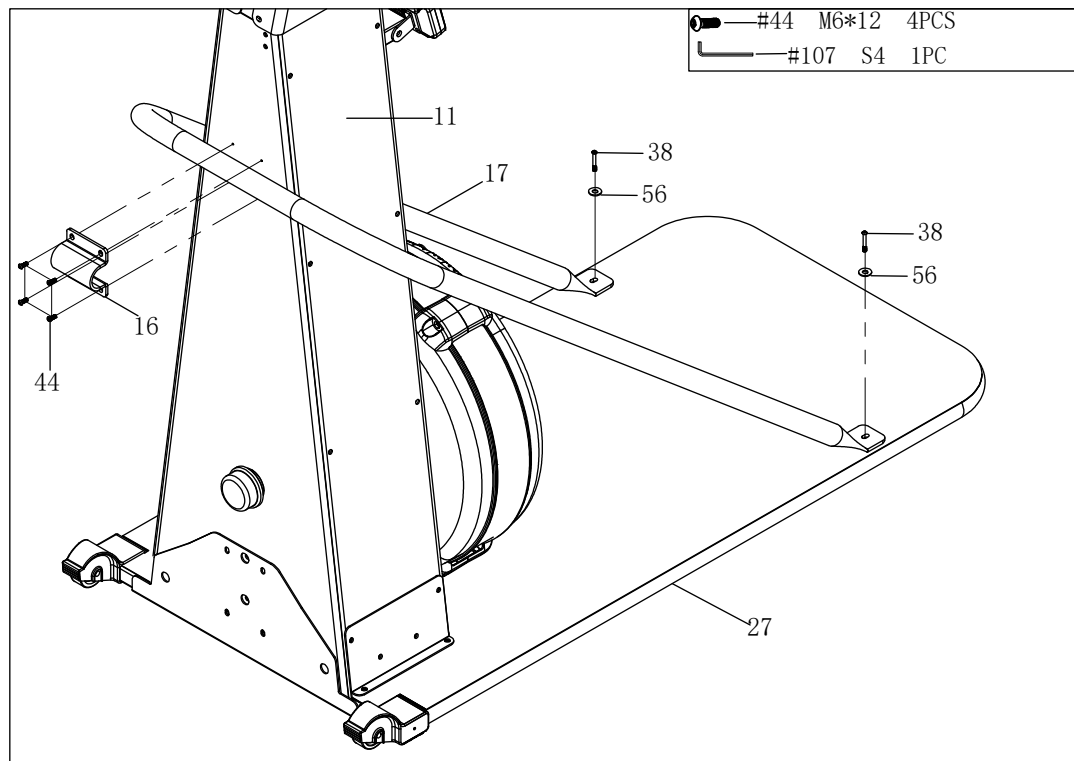

Fig. 13
1. Remove the connecting pipe fixing plate (16) and the four bolts (44) from the main frame (11) (Fig. 13).
2. Remove the connecting pipe (17), two bolts (38) and two washers (56) from the bottom board (27) (Fig. 13).